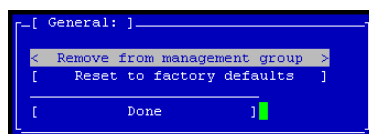

Figure 233. Resetting to Factory Defaults
1. On the Configuration Interface main menu, tab to Config Management and press Enter. The Configuration Management window opens, shown in Figure 233.